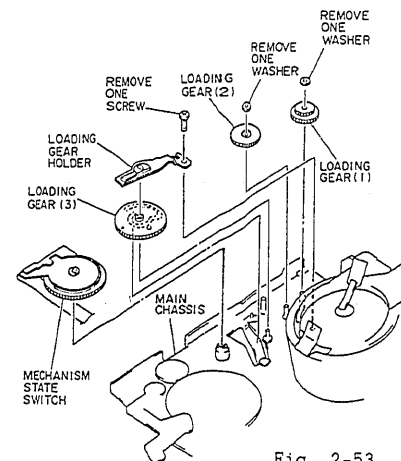
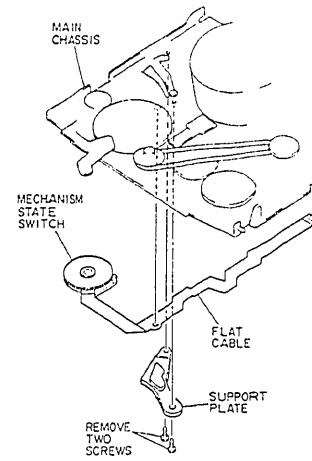

Fig. 2-53
Fig. 2-54
1) Remove one (1) washer and pull out loading gear (2) from the main chassis. (See Fig. 2-53)
- (2) Loading Gear (1)
2) Remove one (1) washer and pull out loading gear (1) from the main chassis. (See Fig. 2-53)
- (3) Loading Gear (3), Mechanism State Switch, Support Plate
2) Remove one (1) screw holding the loading gear holder. (See Fig. 2-53)
3) Pull out loading gear (3) and mechanism state switch from the main chassis.
4) Remove two (2) screws holding the support plate. (See Fig. 2-54)